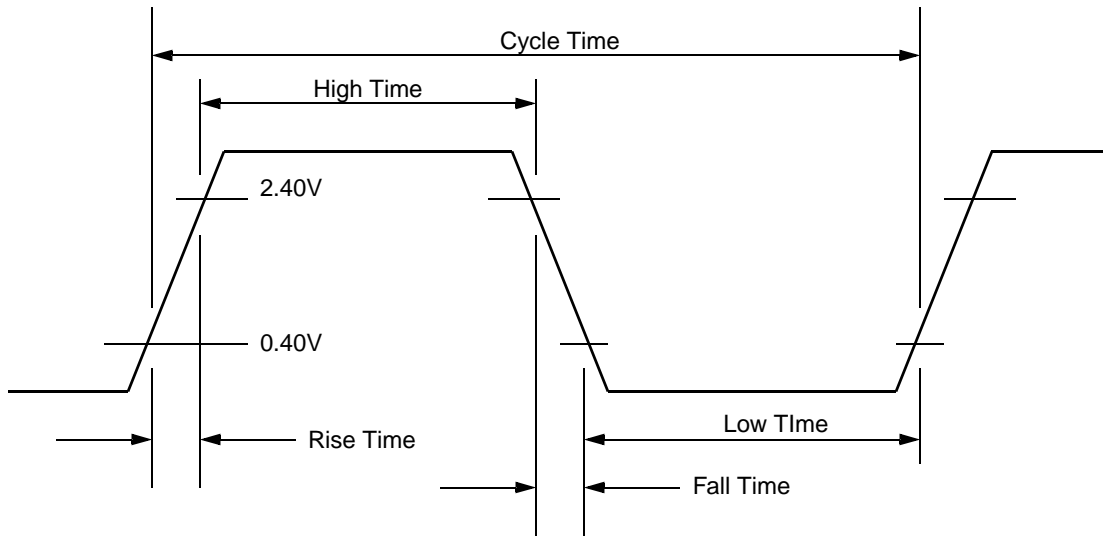
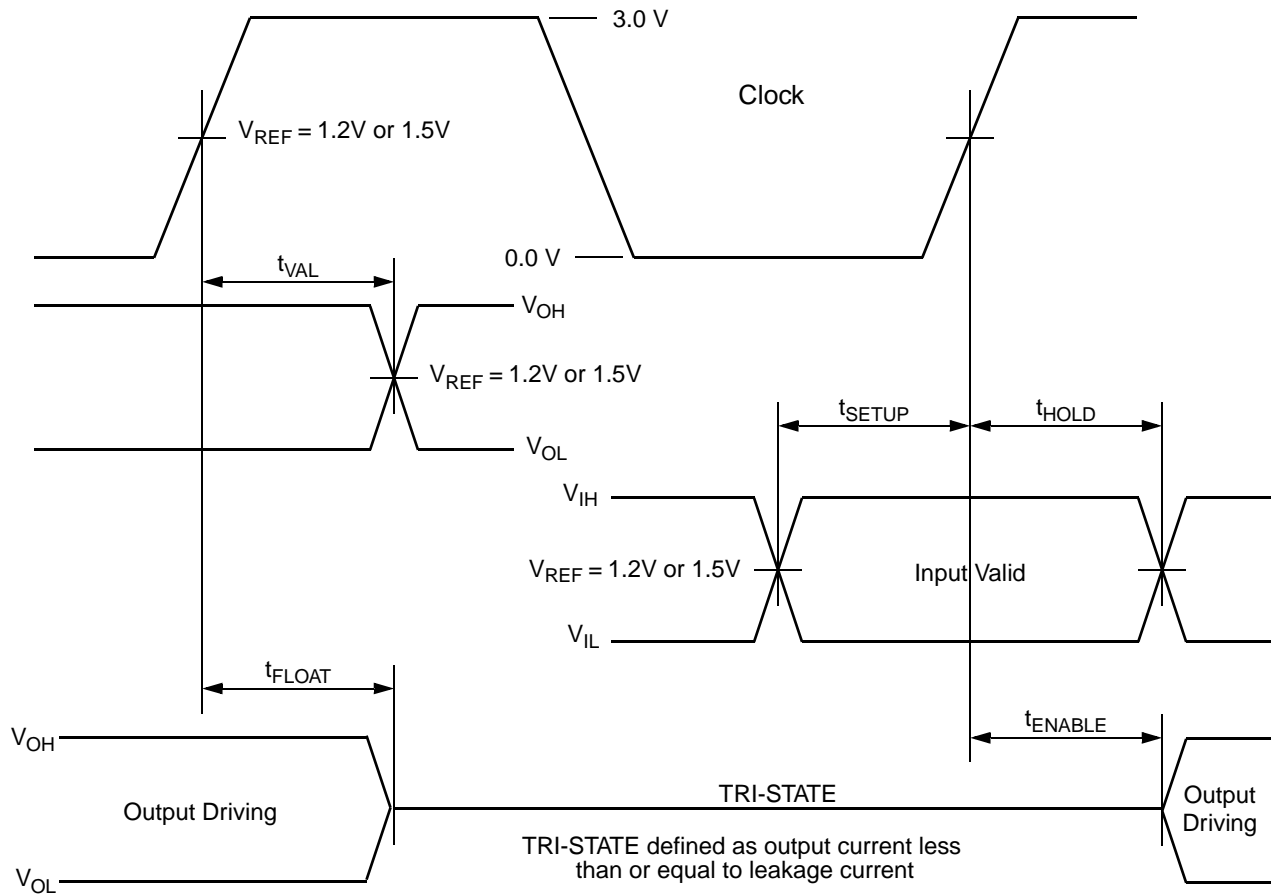

Figure 7-1. Clock Reference Definition
Figure 7-2. AC Reference Timing and Test Definition
Under any mode of operation, the USB inputs do not meet the requirements of "Figure 7-1 Maximum Input Waveform For USB Signaling" from the *USB Specification v1.1*. The maximum voltage can not exceed the value above.
Unless otherwise indicated, no inputs have a specified hysteresis. Figure 7-1 and Figure 7-2 provide reference definitions used in this section.
Note 1. Signal parameters are defined in Figure 7-1 "Clock Reference Definition" on page 550.
- Signal and test parameters are defined in Figure 7-2 "AC Reference Timing and Test Definition" on page 550.